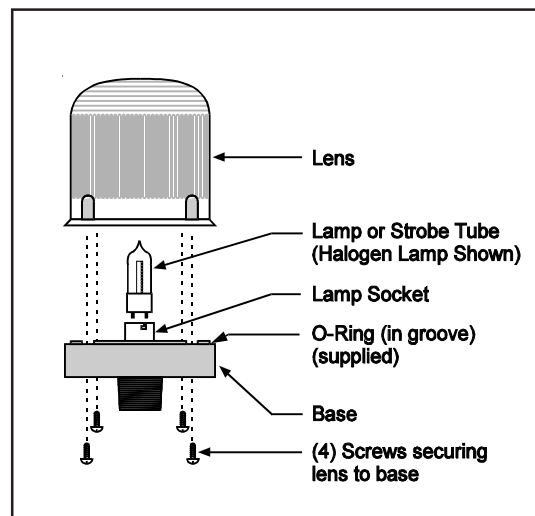

Figure 3. Lamp Replacement
2. Remove (4) screws securing the lens to the base from bottom of base (Figure 3) and remove lens.
3. Replace halogen lamp or strobe tube as follows (Figure 3):
4. Replace lens on base and secure with (4) screws removed in step 2.